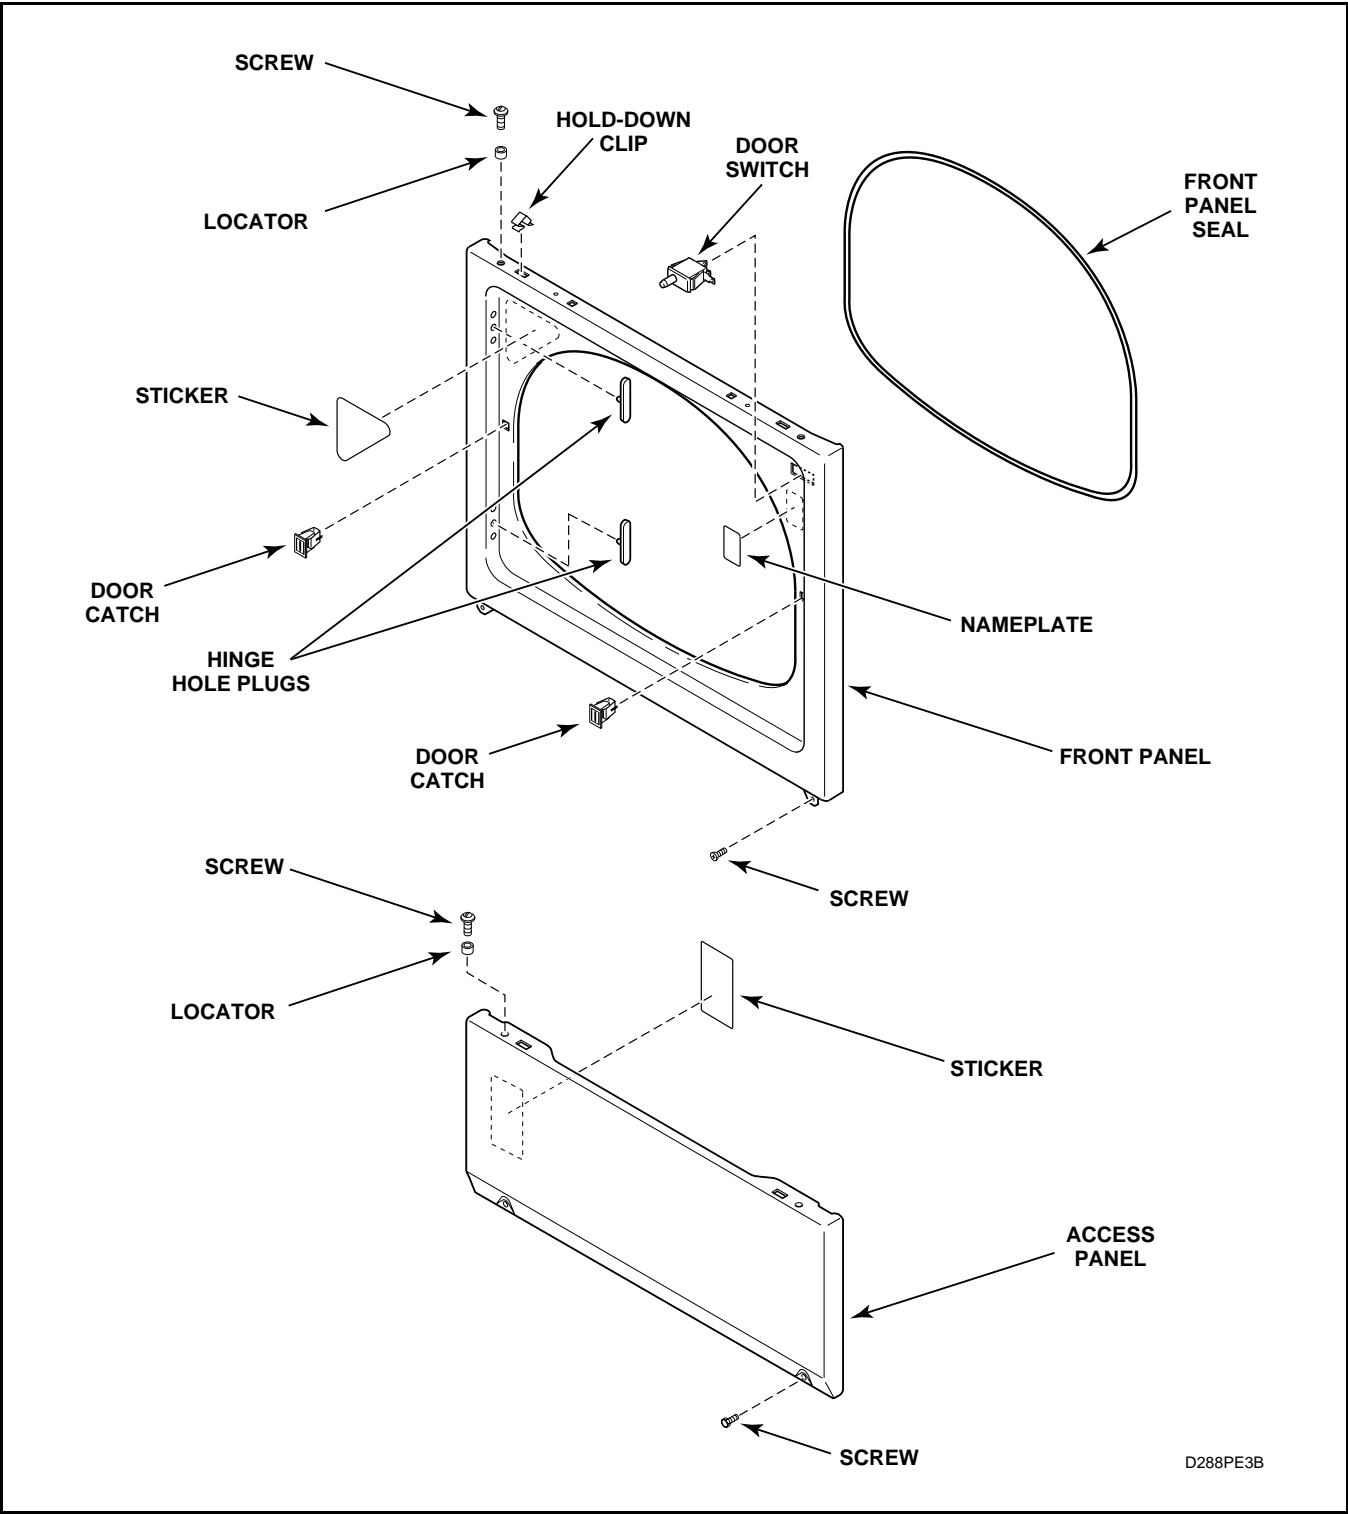

Figure 12
(Figure 12)
- Gently lower the access panel to disengage locators from bottom edge of front panel. See Figure 12.
- Depress tabs on switch and push out of front panel. See Figure 12.
(*Figure 12*)
- (2.) Gently lower the access panel to disengage locators from bottom edge of front panel. See *Figure 12*.
- b. Gently lower the access panel to disengage locators from bottom edge of front panel. See *Figure 12*.
- Gently lower the access panel to disengage locators from bottom edge of front panel. See *Figure 12*.